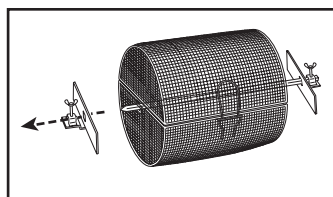

Figure 6
8. Push remaining End Bracket onto Rotisserie Bar and against Round Basket. See Figure 6.
5. Locate looped wires on opposite sides of Adjustable Basket. Place an End Bracket over each set of looped wires (on both sides of Basket). The Brackets have cut-outs which fit over the looped wires. See Figure 6.